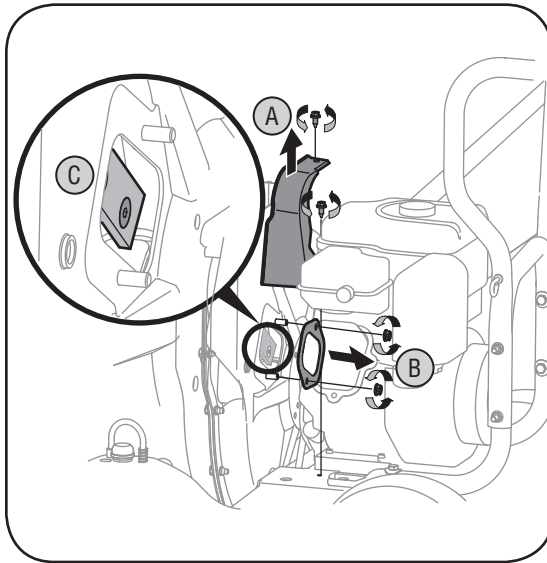

Figure 13
- a. Remove plastic belt cover from front of the engine by removing the two self-tapping screws. See Figure 13 on next page.
- c. Locate one of the chipper blades in the access opening by rotating the impeller assembly by hand. Remove the chipper blade using a 3/16" allen wrench and a 1/2" wrench. See Figure 13.
6. Remove the plastic belt cover from front of the engine by removing the two self-tapping screws. Refer to Figure 13.